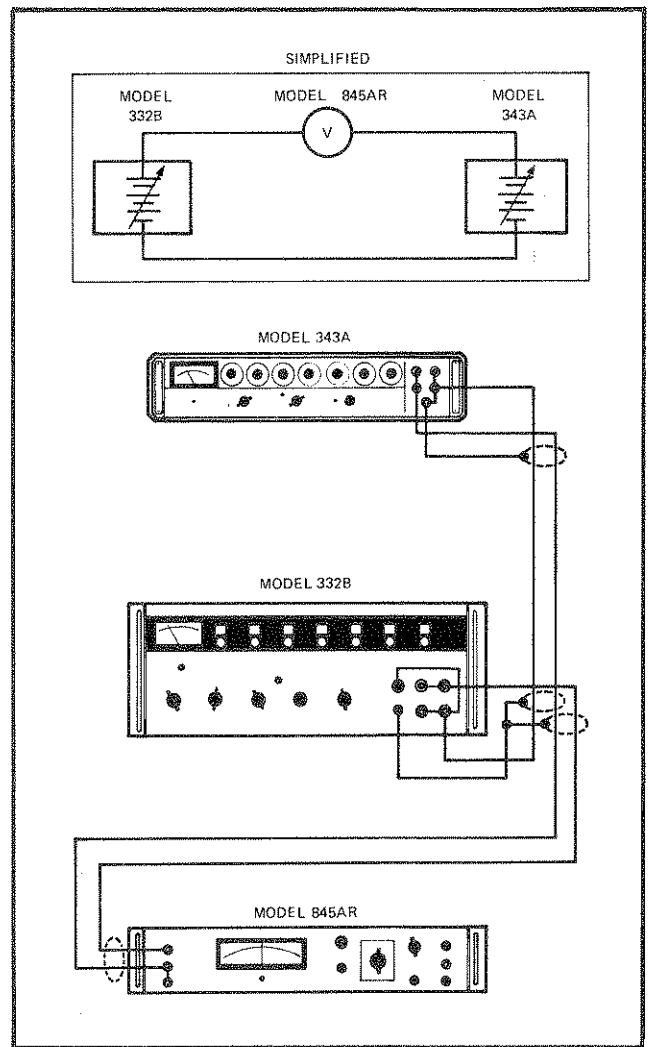

Figure 4-13. BETA STRING LINEARITY TEST SETUP.
- a. Connect the equipment as shown in Figure 4-13.